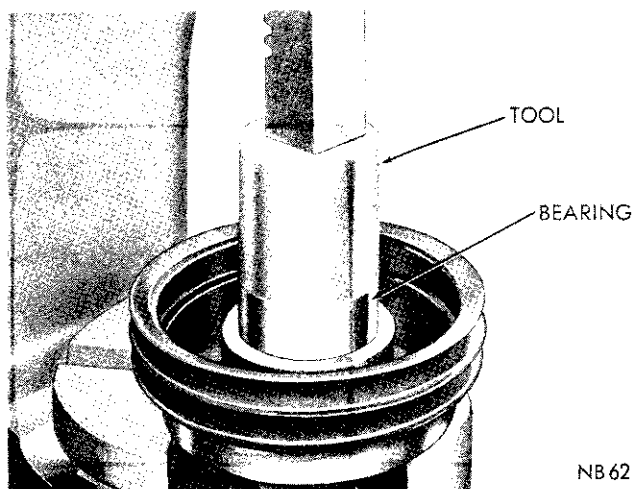

Fig. 4—Installing a New Bearing in the Pulley Assembly (Typical)
(1) Install pulley assembly with pulley side up on an arbor press and insert a **new** bearing into the bore. Install Tool C-3807 against the bearing and press into position (Fig. 4).
(2) Install pulley assembly with pulley side facing down on Tool C-3807.
(3) Start drive hub into the inner bearing race, and press hub into position with an arbor press.
(4) Install bearing snap ring and hub snap ring.